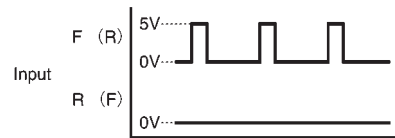
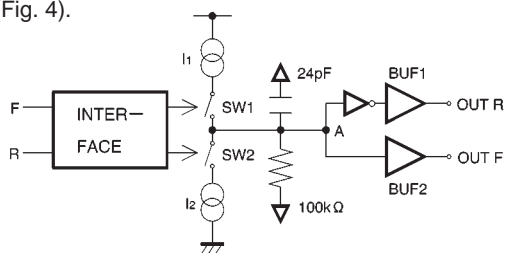

Fig. 3
Fig. 2
(1) Fig. 3 shows the inputs from the digital servo IC for CH1-CH3 drivers (all drivers except the spindle). SW1 is on when the forward input signal (HIGH level, over 2.4V) is present. SW2 is on when the reverse input signal is present (Fig. 2)
This can be increased by inserting a capacitor between point A (pins 3, 11 and 18) and V_{REF} . The constant current (I_{const}) given in the electrical characteristics refers to I_1 and I_2 in Fig. 2.